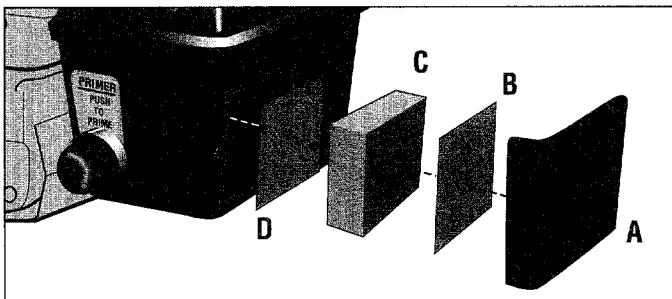

Figure 17: Engine air filter assembly. Cover (A); larger flocked filter (B); foam filter (C); smaller flocked filter (D).
It is extremely important that air filter service be performed by the maintenance schedule and according to the steps that follow. Your equipment has two thin flocked filters and a thick foam filter. See Figure 17.
- Reassemble filter components as shown in Figure 17.